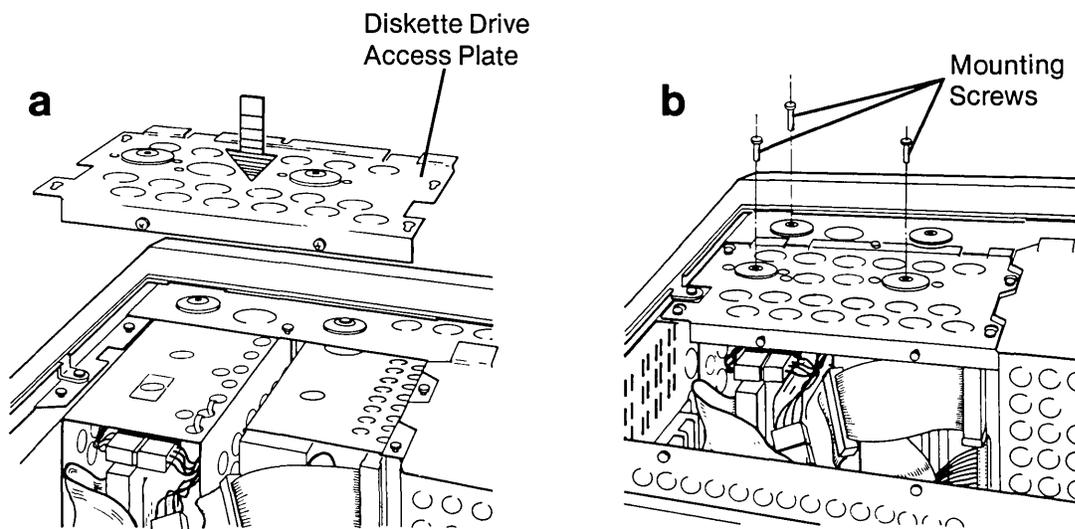

Figure 11-32. Replacing the Top Mounting Screws into the Drives.
17. Place the access cover over the drives. Insert the three (3) top mounting screws into the drives (see Figure 11-32 a & b).